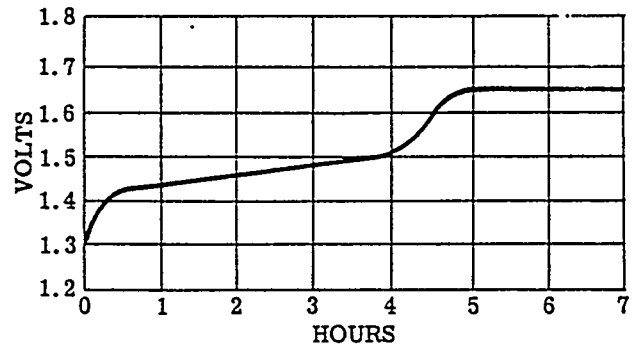

Figure 13-2. Cell Voltage Variation Curve.
Charge the battery at 2.5 amperes for a period of 7 hours. Monitor all cell voltages during this time to assure that they are rising evenly. Approximately 3 hours before the battery is fully charged, the cell voltages will rise sharply as indicated in Figure 13-2, which is typical cell voltage variation curve during constant current charging.
b. The charging rate for a partially discharged battery is the same as that for a new battery, but the charge time can be shortened. By checking the single cell voltages, the charge time required can be determined by using Figure 13-2. Otherwise, use the procedure described above.